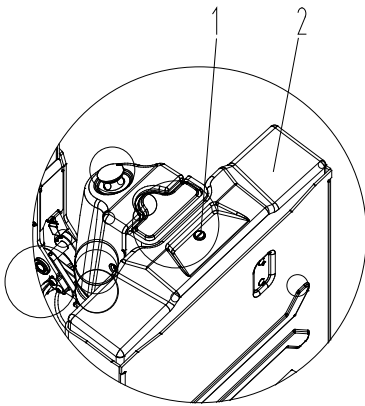

Figure 6
- Refer to Figure 6, remove screw 1 and remove the housing 2;